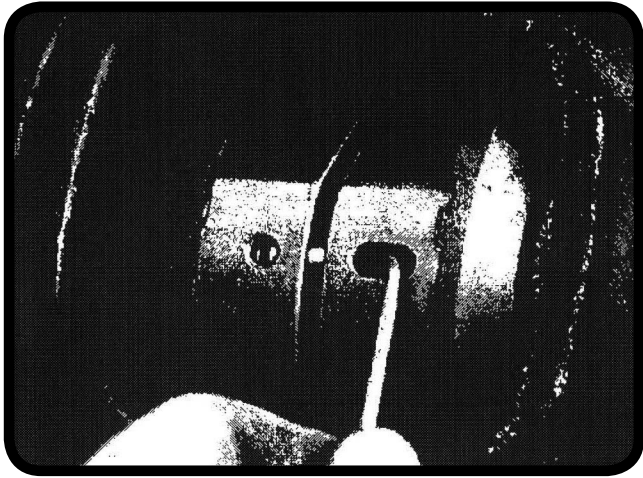

Figure 6
2. Push the pin out of the window hole and into the pin hole in the opposite driver with a small pointed tool (**Figure 6**).